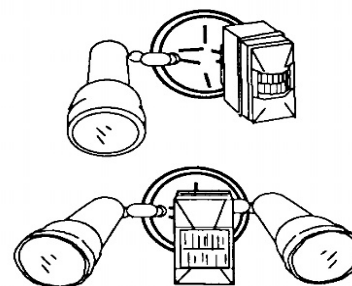

Figure 3
- Mount the sensor as shown in **Figure 3** with controls facing downward to avoid the risk of electrical shock.
Figure 3 shows two typical installations. The lamps are to be on either side of the SL-5410-A Control case.
1. Connect the control to the junction box. See **Figure 3**.